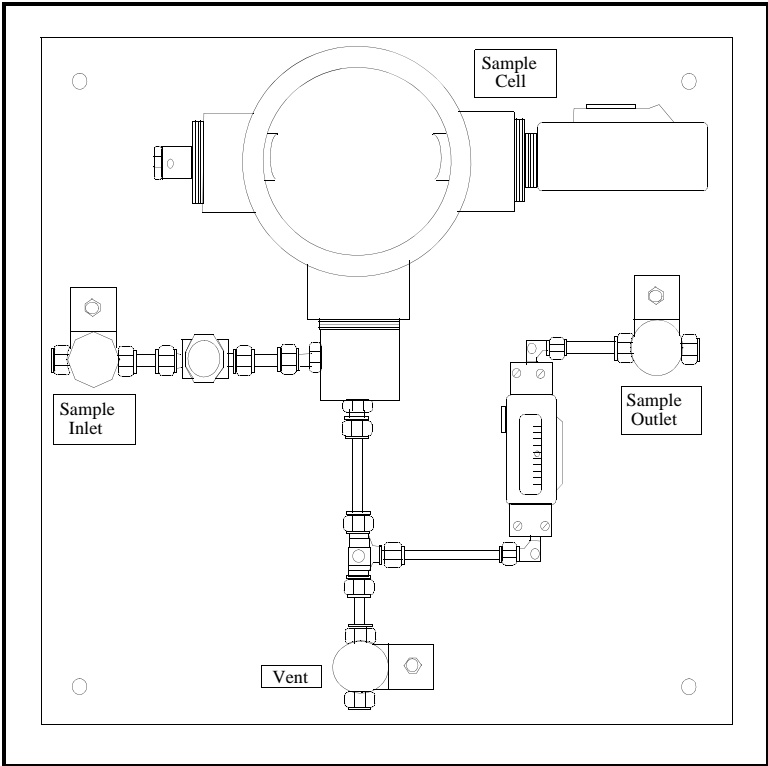

Figure 77: Typical Moisture Sample System
- Typically, sample systems should be kept very simple. They should contain as few components as possible and all or most of those components should be located downstream of the measurement probe. Figure 77 on the next page shows an example of a simple sample system consisting of an explosion-proof housing with a sample cell, a filter, a flow meter, a vent valve and two shut off valves, one at the inlet and one at the outlet.